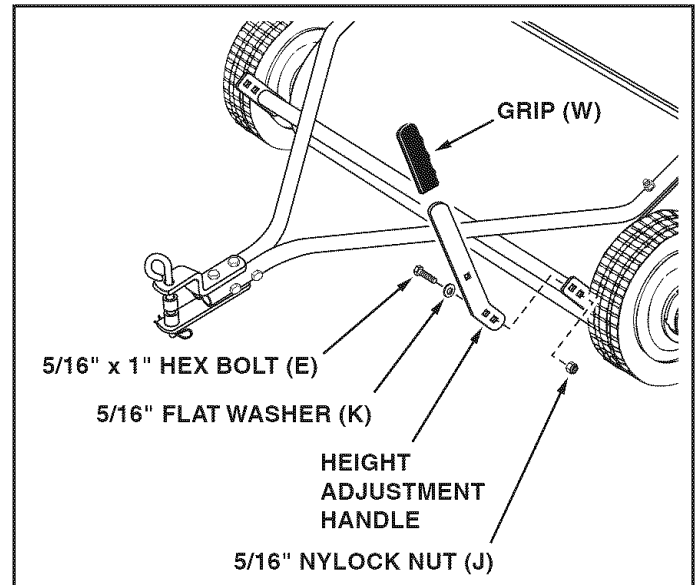

FIGURE 9
STEP 8: (SEE FIGURE 9)
- Assemble the height adjustment handle to the **inside** of the bracket on the end of the height adjustment tube. Use two 5/16" x 1" hex bolts (E), 5/16" flat washers (K) and 5/16" nylock nuts (J). **Tighten.**
- Assemble the grip (W) onto the height adjustment handle.